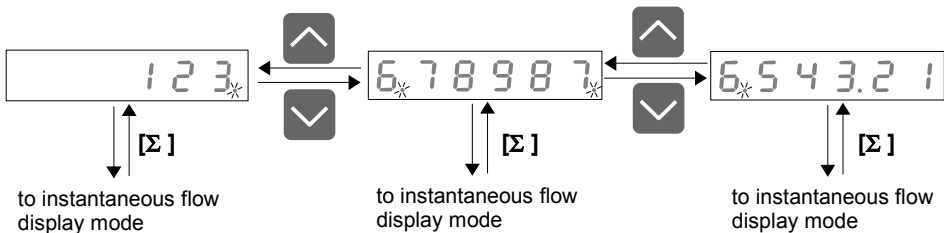

Figure 6.1. Switching between digits (screens) of total flow result.
- while medium digits are displayed both most left and most right decimal points are flashing (Figure 6.1). Most right decimal point signalizes that result has less significant digits – to see these digits press [v] button. Most left decimal point signalizes additional more significant digits. Press [^] button to see these digits.